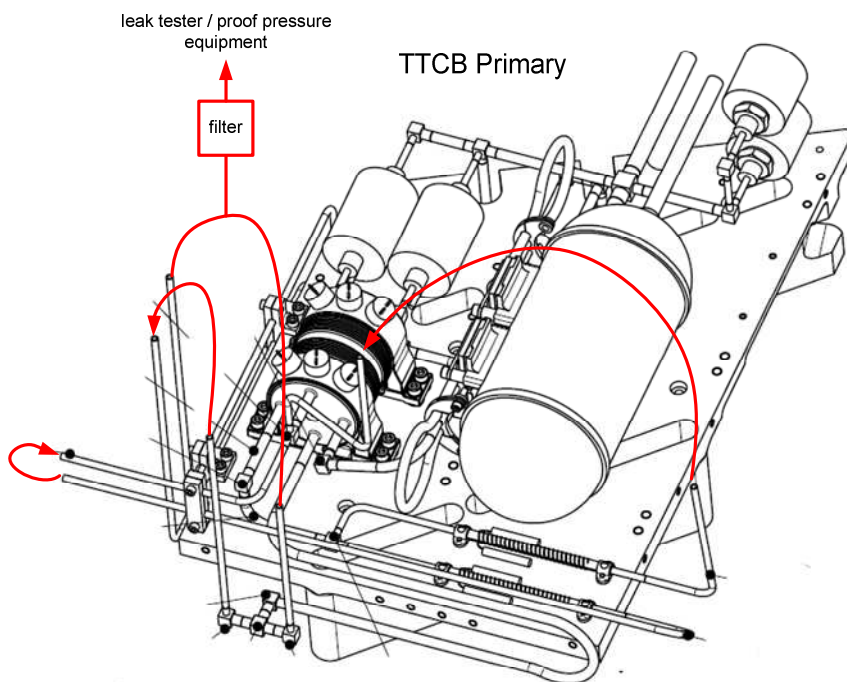
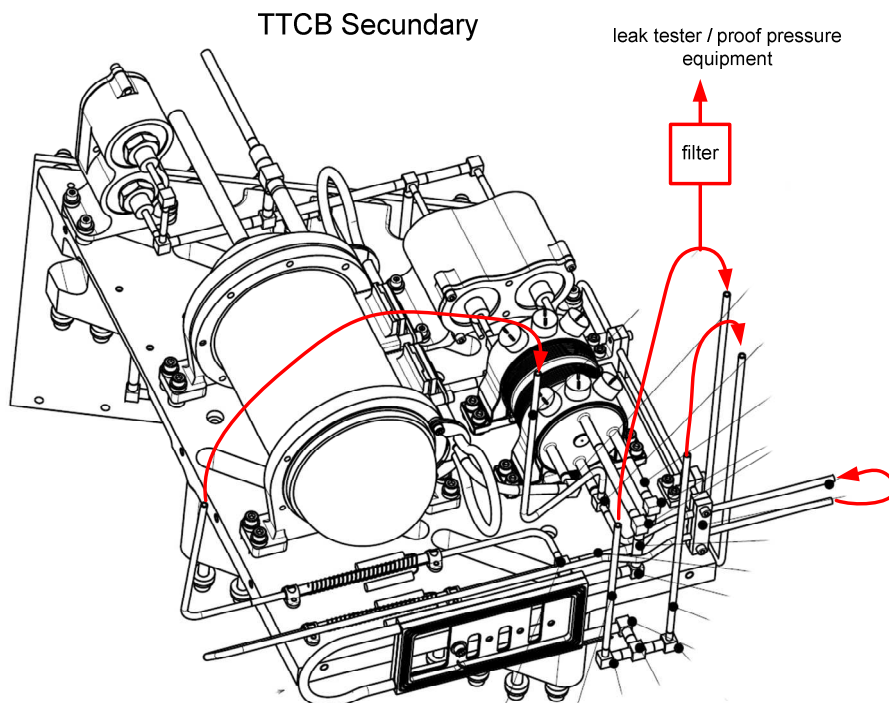

Figure 3-3: TTCB primary with additional tubing for He leak test and proof pressure test.
Figure 3-4: TTCB secondary with additional tubing for He leak test and proof pressure test.
1. Connect tubes to connection tubes of TTCB (fig. 3-3 or fig. 3-4), same as He leak test set-up.
3.	Verify TTCB tube are short circuit like depicted in figure 3-3 for primary or 3-4 secondary, so TTCB consist out of 1 pressure compartment.